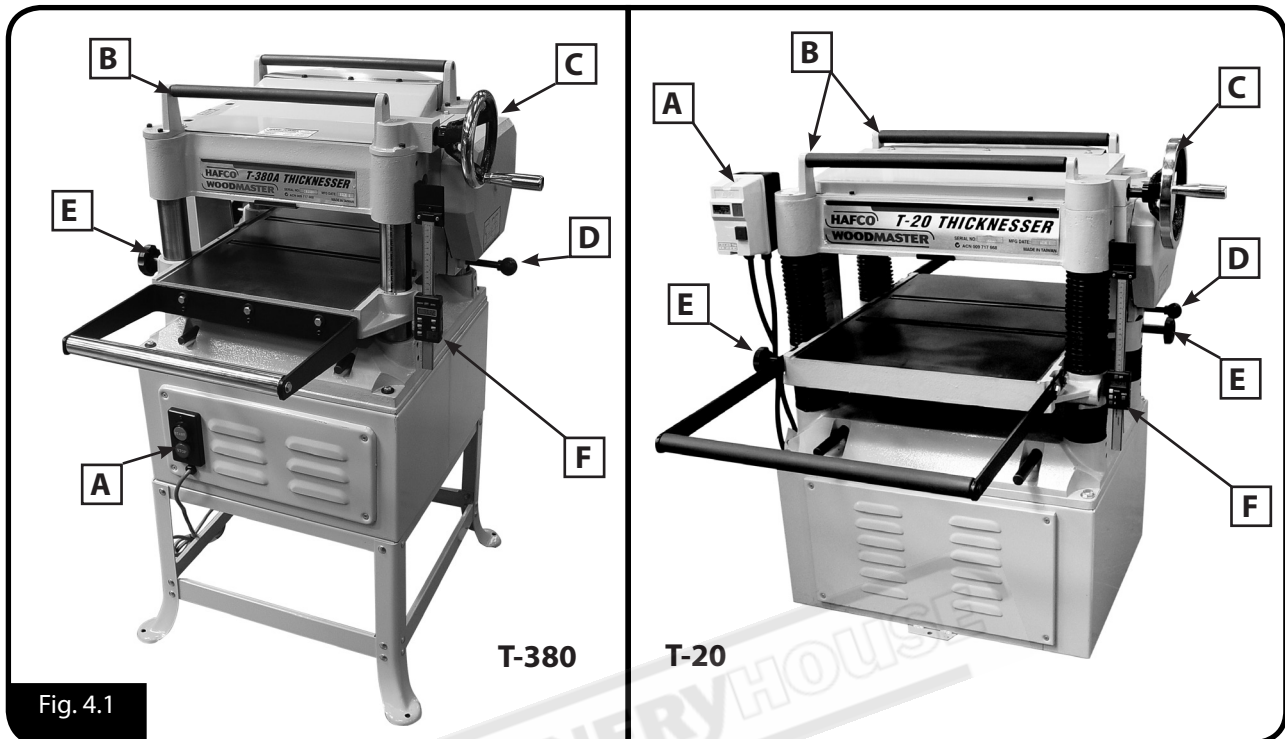

Fig. 4.1
The following descriptions will help you to become familiar with the basic controls of your machine. (Refer Fig. 4.1 on page 18)
5. Move the Feed Rate Control Lever (Fig. 4.1) to the correct position